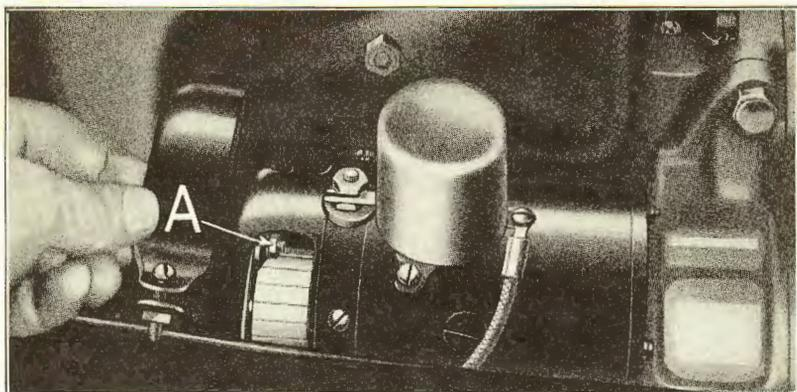

Fig. 484
- Loosen the third brush nut (See "A" Fig. 484) and shift the third brush to the left as far as possible i. e. toward the engine.